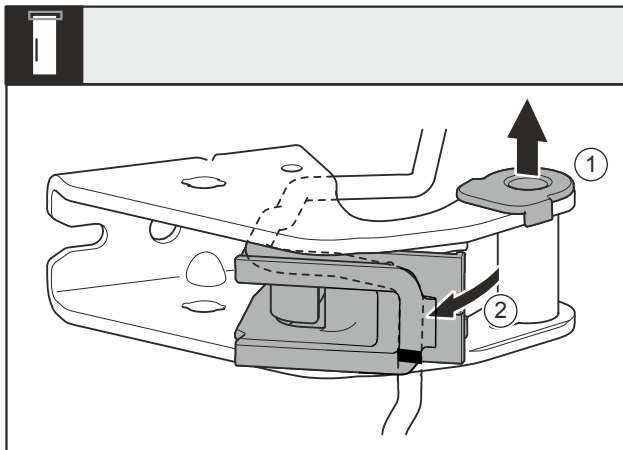

Fig. 15
- Pull the bearing bush Fig. 15 (1) out of the guide.
- Swivel the cable holder Fig. 15 (2) out.